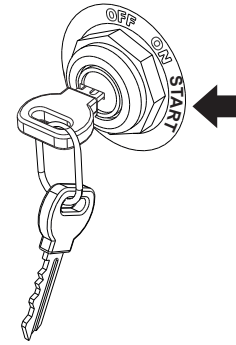

Figure 20. Engine Ignition Key
- Turn the engine ignition key (Figure 20) to the **START** position and hold it until the engine starts. When engine starts, release the key, allowing it to return to the **ON** position.